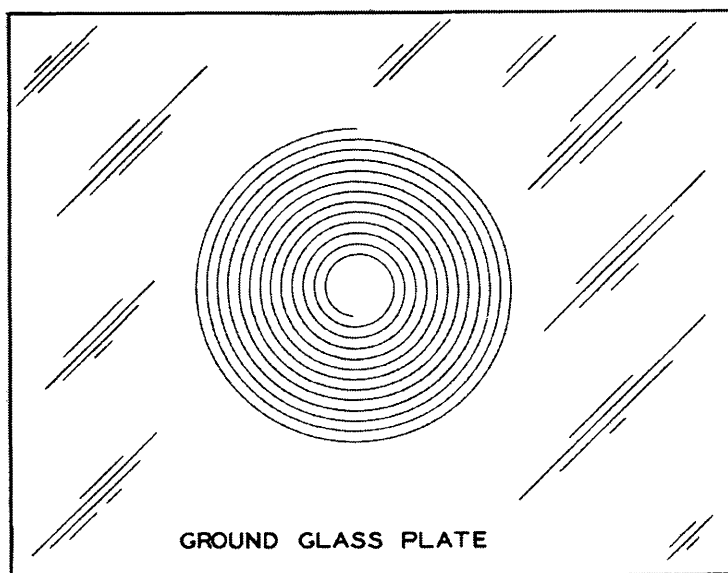
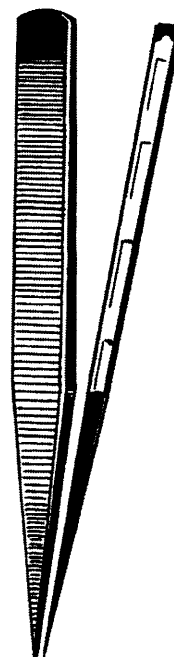

Fig. 18-15
Fig. 18-16
The preliminary work of examination and correction is done on a glass work surface, preferably ground glass, Fig. 18-15. The glass surface should be raised above your work bench at least a quarter inch by putting legs under the glass.
**T**he student will find it advantageous to make any necessary corrections in the round and flat of the hairspring before placing it on a balance wheel and making the spin test. When working in and around the coils of a hairspring use a piece of glass as the working surface. Ground glass is preferable, figure 18-15. This will drop the shadow of the hairspring coils allowing the workman to see each coil distinctly. Use the best hairspring tweezers available and keep the points protected when not in use. A small pointed steel wire or needle mounted in a small handle can be used to work in between the coils. When making a bend in the coils of a hairspring keep the tweezers vertical, and the pin as close as possible to the tweezer points, figure 18-16.